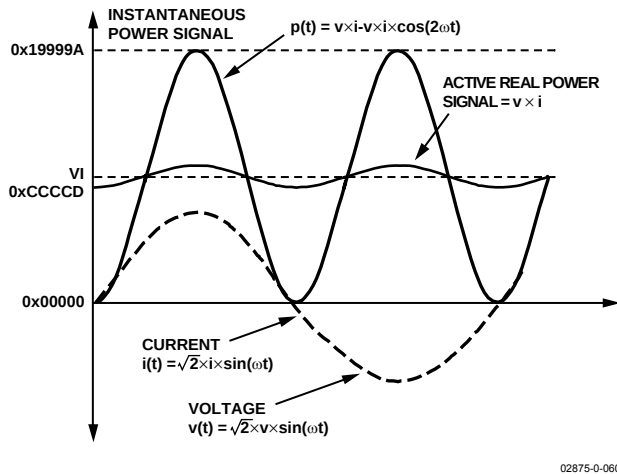

Figure 37. Active Power Calculation
Note that the active power is equal to the dc component of the instantaneous power signal $p(t)$ in Equation 9, i.e., VI . This is the relationship used to calculate active power in the ADE75XX/ADE71XX. The instantaneous power signal $p(t)$ is generated by multiplying the current and voltage signals. The dc component of the instantaneous power signal is then extracted by LPF2 (low-pass filter) to obtain the active power information. This process is illustrated in Figure 37.
The ADE75XX/ADE71XX also incorporates an active power offset register (WATTOS[15:0]). This is a signed two's complement 16-bit register that can be used to remove offsets in the active power calculation—see Figure 37. An offset could exist in the power calculation due to crosstalk between channels on the PCB or in the IC itself. The offset calibration allows the contents of the active power register to be maintained at 0 when no power is being consumed.
As mentioned in the last section, the discrete time sample period (T) for the accumulation register is 1.22 μ s (5/CLKIN). With full-scale sinusoidal signals on the analog inputs and the WGAIN register set to 0x000, the average word value from each LPF2 is 0xCCCCD—see Figure 37. The maximum positive value that can be stored in the internal 49-bit register is 2^{48} or 0xFFFF,FFFF,FFFF before it overflows. The integration time under these conditions with WDIV = 0 is calculated as follows: